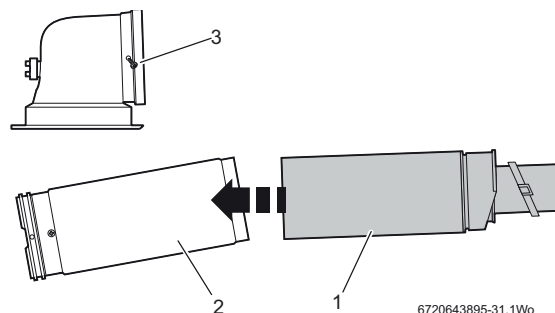

Fig. 35 Reducing the standard terminal
- If the required length is less than 350mm the standard telescopic flue can be modified, refer to fig. 35.